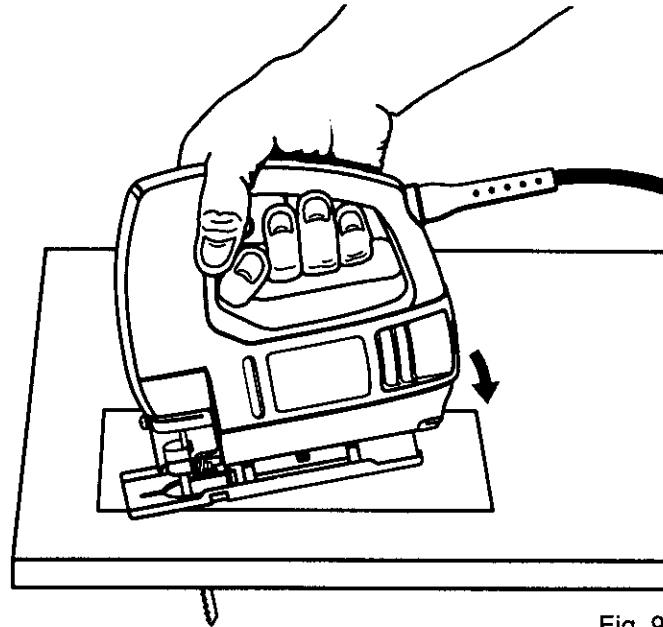

Fig. 9
See Figure 9.
- Using high speed, start your saw and slowly lower the blade into the workpiece until the blade cuts through the wood. See Figure 9.